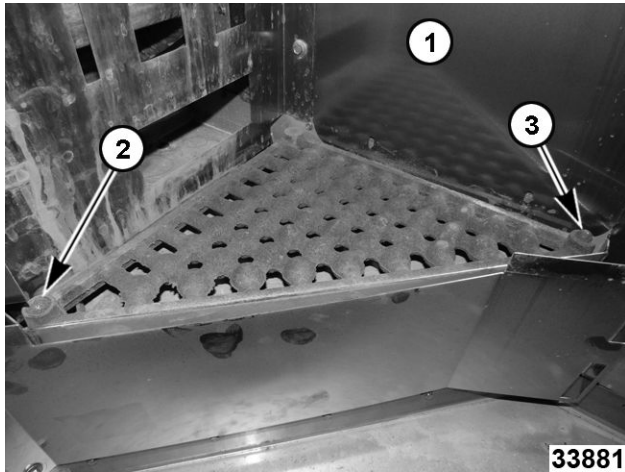

Fig. 60
- The next steam ball assembly must be put in place matching the female post (2, Fig. 60) with male post (3, Fig. 60) of previous assembly. (1, Fig. 60, splash panel.)